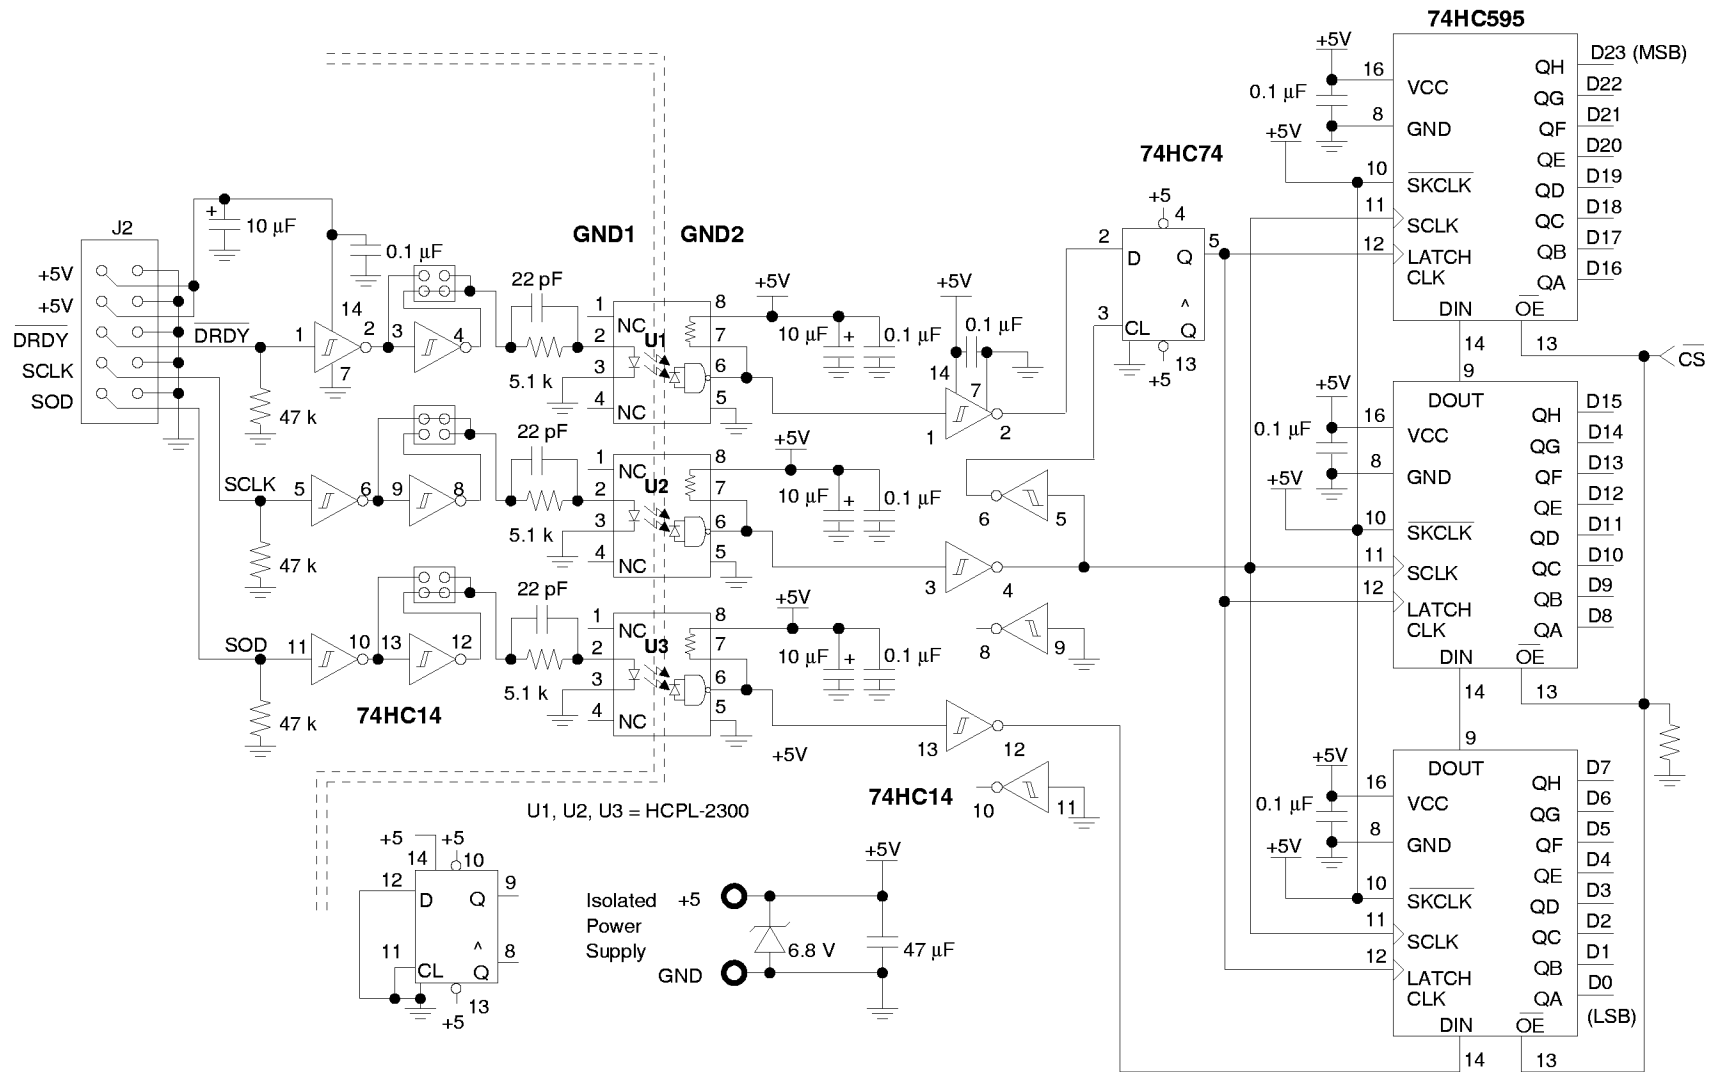

Figure 6. Suggested Opto-coupled Interface Between A/D and Serial-to-parallel Registers (Not Provided)
Tables 1 and 2 illustrate the DIP switch positions of switches S3 and S4. The switch positions with asterisks indicate preferred settings for driving the interface of Figure 6.
*Default to use Figure 6 interface.
By using the signals at header J2, the evaluation board can be set up to output its conversion words into three 74HC595 serial to parallel registers. This provides 24-bit parallel data. Figure 6 illustrates the circuitry which can be interfaced to the J2 connections to provide an isolated digital interface to three 74HC595 registers (the circuitry of Figure 6 is not provided on the board). Signals from connector J2 (+5 volts, GND, SCLK, SOD, and DRDY) are interfaced to the GND1 side of the opto-isolated interface. The 74HC595 registers require SCLK rising to latch data bits and DRDY rising to parallel latch data. Jumpers must be placed to select the proper phase of these signals as the CS5322 provides data bits to be latched by the falling edge of SCLK and causes DRDY to fall when the last data bit is clocked out. A flip-flop is used to delay DRDY by one-half SCLK cycle before it is used to latch the parallel latch. Jumper J6 (CLK) is used to connect the 1.024 MHz clock as the SCLK signal to clock serial data from the chip. A second isolated +5 volts should be provided to the GND2 side of the interface. Opto-isolation eliminates any ground loop between the board and the computer interface.